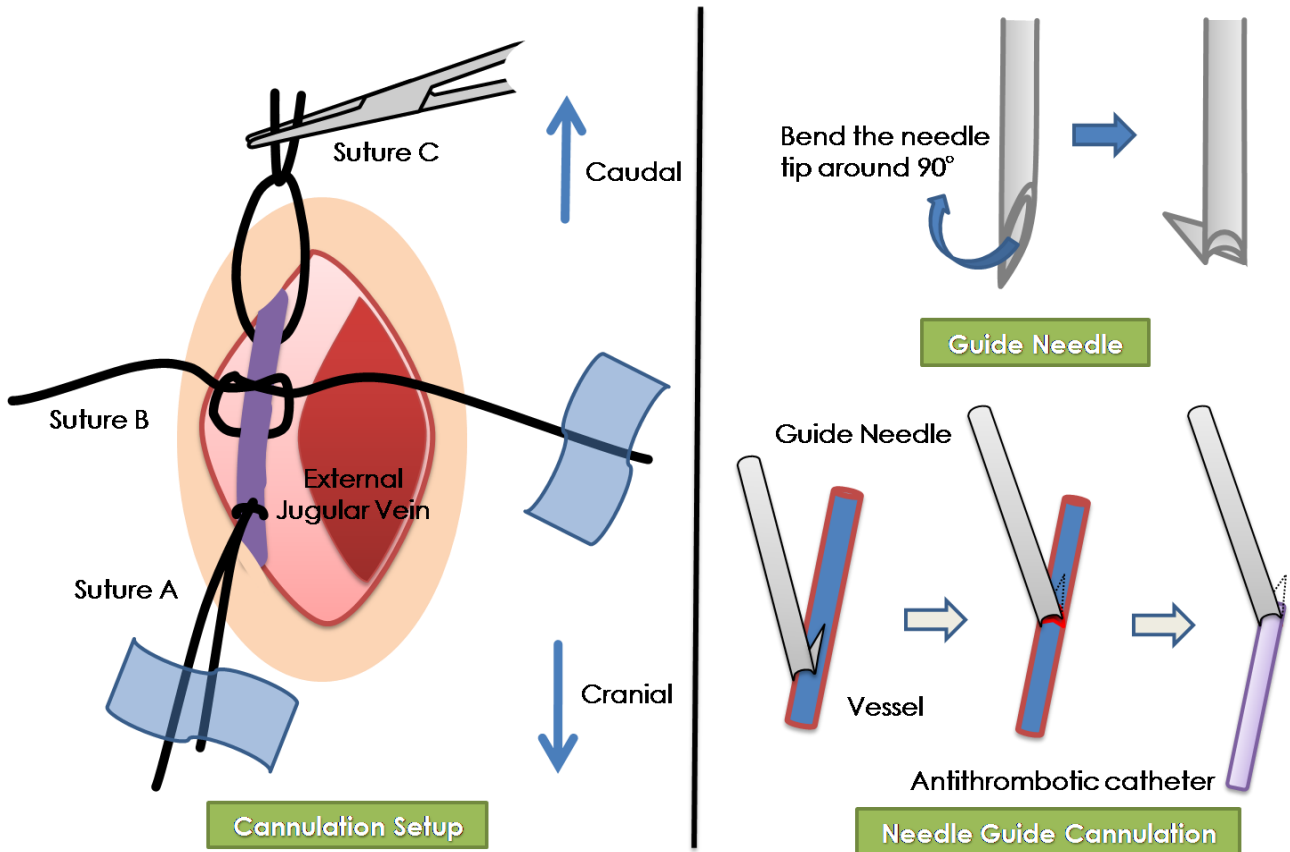

Fig. 3 Cannulation setup and needle introducer
6. Access to Intravenous †††See Fig.3
5. Tie a secure knot around the vein using suture (A) to ligate the vessel.
6. Apply tension to suture (A) and tape the suture tails to the surgery table.
7. Make a loose knot on suture (B), and tape the suture on one of the tails.
8. Make a loose knot on suture (C), and clamp the suture tails with hemostat.
9. Gently apply tension to suture (C) using a hemostat to occlude blood flow.
- i. Prepare a catheter introducer by bending the beveled tip of a 23-gauge syringe needle. Hold the syringe needle with the beveled side facing up. Grasp just the beveled area of the needle with a needle holder and bend the tip downward to an angle of approximately 90°. (See Figure 3) The syringe needle may be placed onto a 1 cc syringe to be used as a handle to hold onto the needle and allow for a clear view of the surgical area.
- ii. Using the 23-gauge needle as an introducer, pierce the vessel just proximal to the ligation suture (A) and insert the catheter caudally. Once the catheter is inserted into the vessel, withdraw the catheter introducer.
11. Secure the catheter to the jugular vein with suture (B) by gently pulling the loose suture tail.
12. Once the catheter is secured, release the tension on suture (C) and advance the catheter around 12mm beyond suture (C).
13. Tighten suture (B) and (C) around the catheter.
14. Release the tension on the ligation suture (A) and tie the loose ends around the catheter to help anchor it in place.